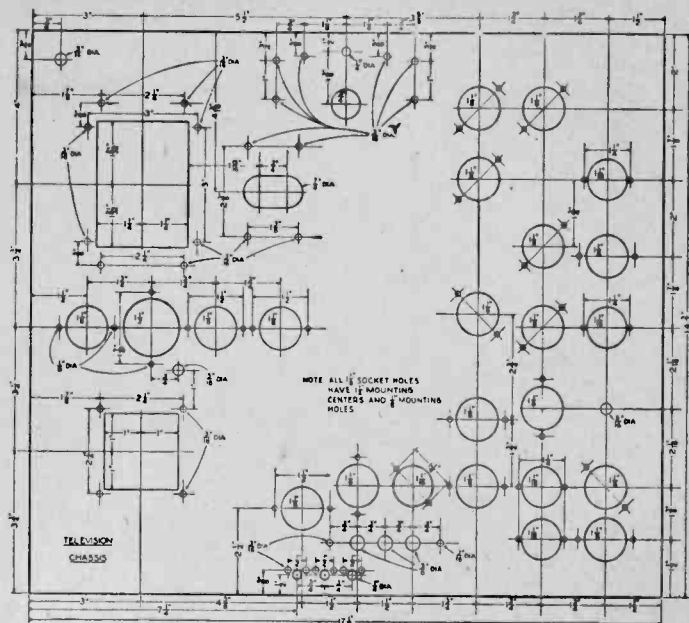
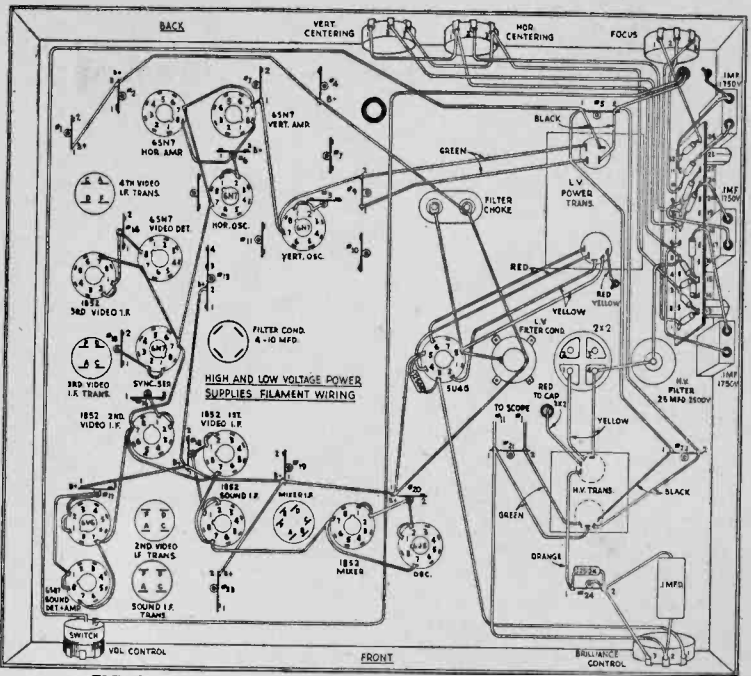

FIG. 1
FIG. 3
The chassis is shown in Fig. 1; front and rear aprons are shown in Fig. 2. While size of transformer holes may vary somewhat with the transformer chosen, the rest of the chassis is standard. After layout has been made on the chassis with a paper template, all round holes  $\frac{3}{8}$  in. dia. or larger are center-punched and first drilled with a No. 27 drill, then drilled with a  $\frac{3}{8}$  in. drill, and punched with a Greenlee socket punch of the proper size. The one elongated hole with  $\frac{3}{8}$  in. dia. ends may be made following the same procedure but making hole on each end and removing remainder in center with chisel and file. The square and rectangular transformer holes are made by drilling small holes around the square to be punched and, after the center has dropped out, using a file to even off the sides. Mounting of parts is shown in Fig. 3.
- 1—chassis, drilled and punched as per Fig. 1
Parts are mounted and wired on terminal strip (Fig. 3). For convenience of construction, terminals are numbered. Along with various power transformer color codes (these may vary with the make of transformer purchased) each transformer will have a color code and a drawing of the coils of both antenna and oscillator included in the box in which it is packaged. In the drawings,
Figures 3 and 3A, are pictorial and schematic diagrams for the power circuits. Because of the high voltage in the cathode ray tube circuits, special wire having a high voltage insulation must be used.